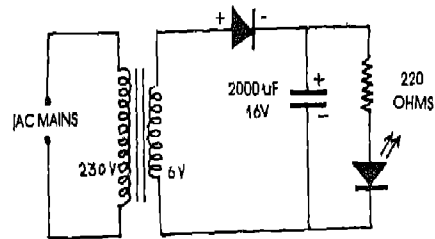

Fig. 3.1
1. Make the connections as shown in Fig. 3.1 Observe the glow of the LED
When the diode is connected as shown in Fig. 3.1 the LED glows brightly. When the orientation of diode is reversed the LED does not glow. After the capacitor is removed the LED glows with less intensity than before.